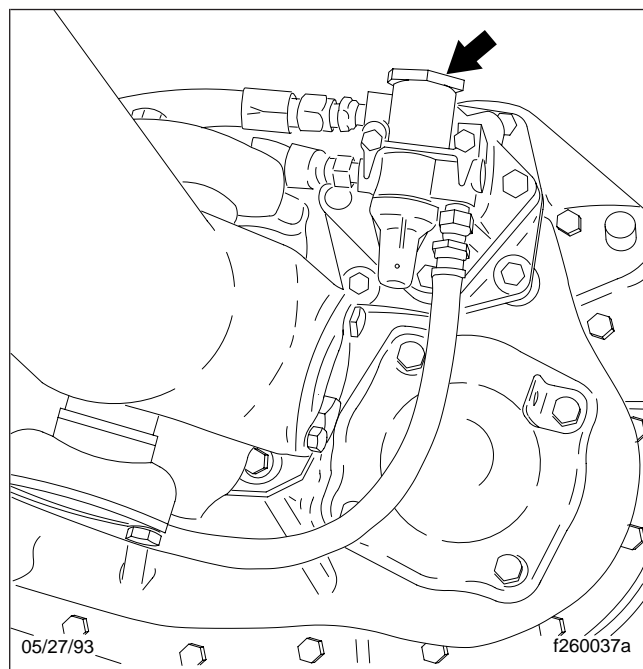

Fig. 3, Eaton Fuller Transmission Air Filter/ Regulator Location
2. Clean the outside of the air filter/regulator with cleaning solvent, then let it air dry. See Fig. 3.